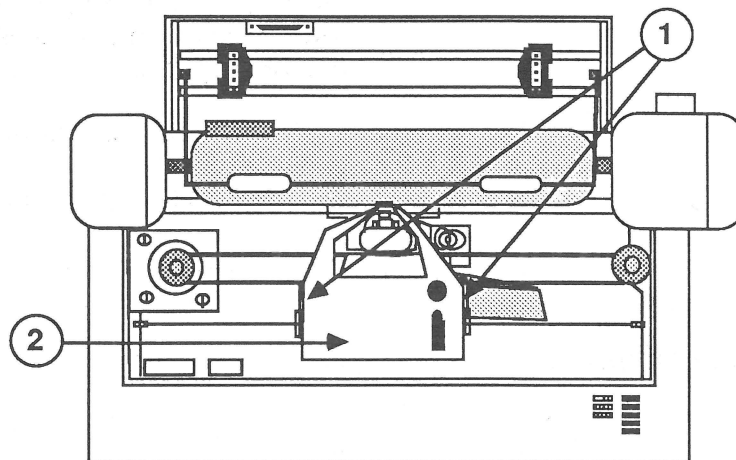

FIGURE 4
5. Push down on the cartridge until it snaps into place (see Figure 4, #2).
3. While pushing down on the cartridge latch arms (Figure 4, #1), lift up the cartridge (Figure 4, #2).